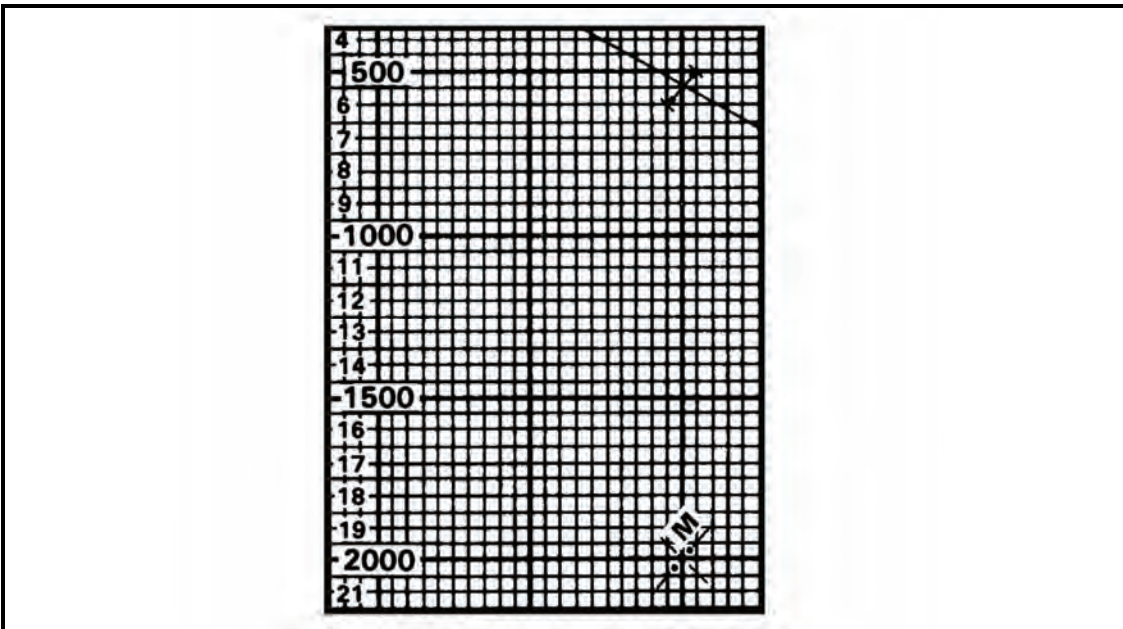

Figure 14-19. Alignment of each mortar with its impact point.
- (6) Once the plots are on the plotting board, the computer determines the firing data for each mortar by aligning each mortar plot with its intended impact plot (Figure 14-19).